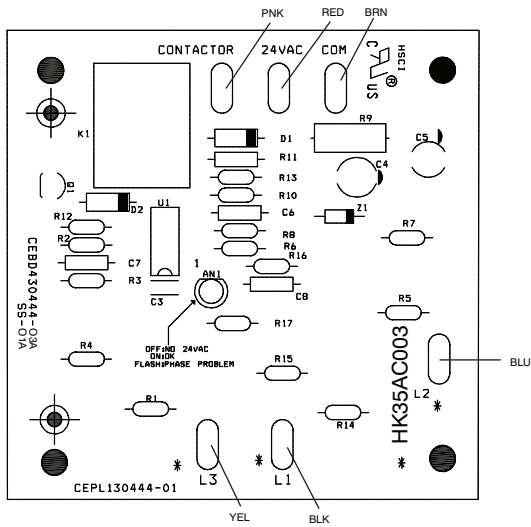

Fig. 4 - Phase Monitor Module Detail (208/230V and 460V)
5. a. **For 208/230-460V** - Route the wiring harness along the top of the control box connecting the pink wire to the “CONTACTOR” spade connector, the red wire to the “24VAC” spade, and the brown wire to the “COM” spade of the phase monitor module. (See Fig. 4.)